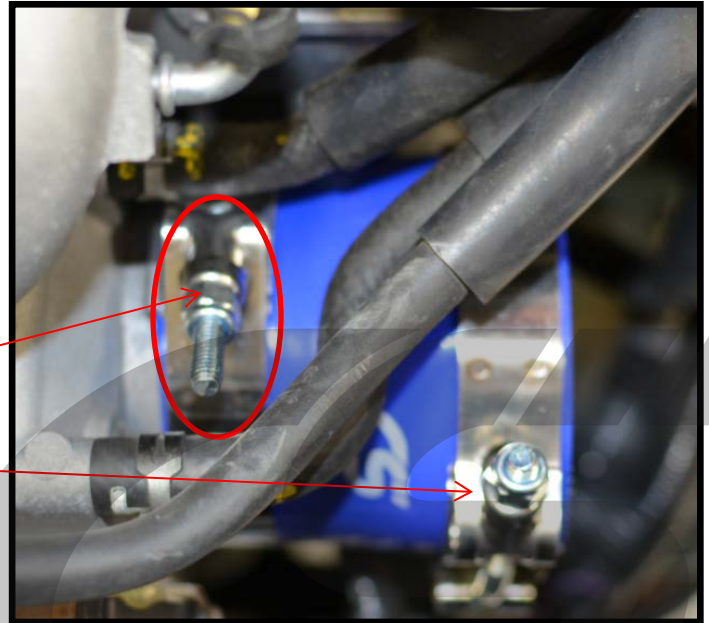

Figure 6a
- a) **Install the throttle body silicone coupler.** Use the 2.75"-3.00" coupler with the 70-78mm and 77-85mm T-bolt clamps, respectively. Use a 10mm socket and ratchet to tighten the 70-78mm clamp on the throttle body, circled in red shown in **Figure 6a**.